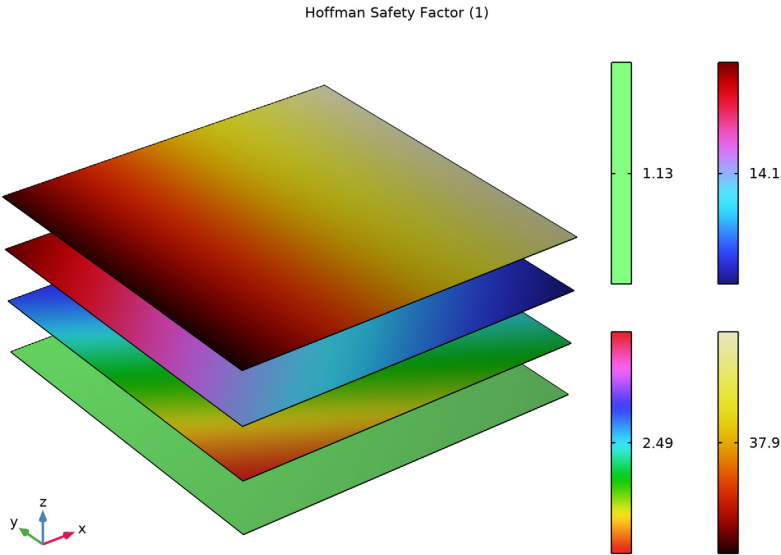

Figure 2: Hoffman safety factors at midplanes for a stack of shells.
For many industrial and real life applications, the safety factor (SF) is more useful than the failure index (FI). The safety factor (or reserve factor) gives a direct indication of how close the component is to failure. Figure 2 shows the Hoffman safety factor (SF) at the midplane for the different plies. Ply 1 (90-degree ply) is close to failure as expected because of its orientation, where fibers are perpendicular to the loading direction.